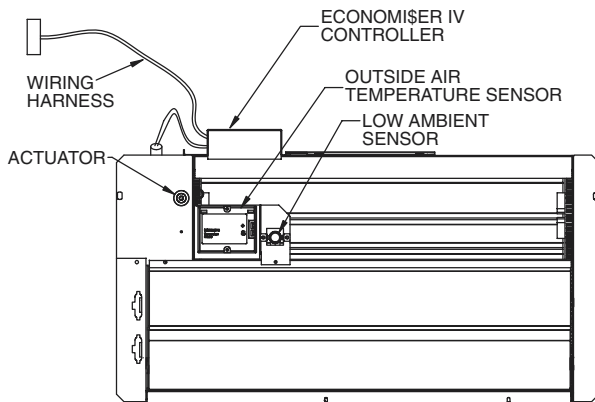
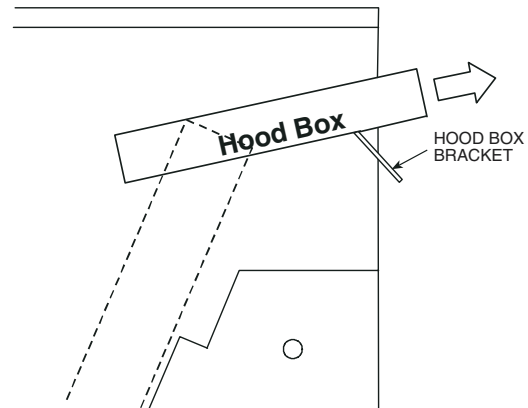
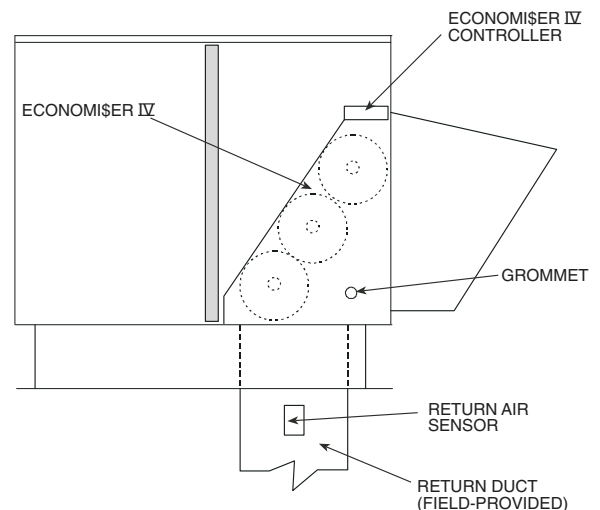
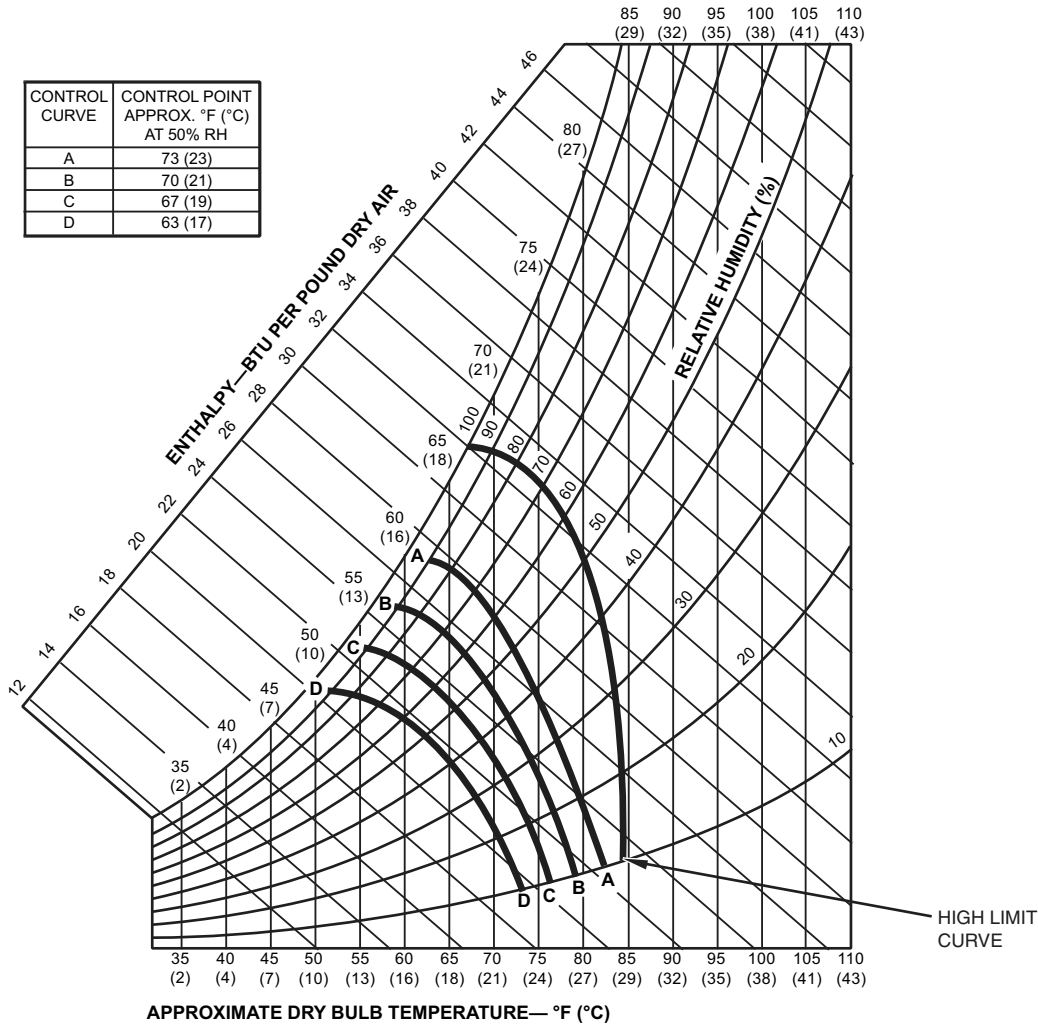

Fig. 19 — EconoMiSer IV Component Locations
Fig. 21 — Hood Box Removal
Fig. 32 — Return Air Temperature or Enthalpy Sensor Mounting Location
Fig. 33 — Enthalpy Changeover Set Points
See Fig. 19 for EconoMiSer IV component locations.
- The box with the economizer hood components is shipped in the compartment behind the economizer. The EconoMiSer IV controller is mounted on top of the EconoMiSer IV in the position shown in Fig. 19. To remove the component box from its shipping position, remove the screw holding the hood box bracket to the top of the economizer. Slide the hood box out of the unit. See Fig. 21.
The outdoor air temperature sensor (HH57AC074) is a 10 to 20 mA device used to measure the outdoor-air temperature. The outdoor-air temperature is used to determine when the EconoMiSer IV can be used for free cooling. The sensor is factory-installed on the EconoMiSer IV in the outdoor airstream. See Fig. 19. The operating range of temperature measurement is 40 to 100 F.
The EconoMiSer IV is equipped with an ambient temperature lockout switch located in the outdoor airstream which is used to lock out the compressors below a 42 F ambient temperature. See Fig. 19.
For differential dry bulb control the standard outdoor dry bulb sensor is used in conjunction with an additional accessory dry bulb sensor (part number CRTEMPSN002A00). The accessory sensor must be mounted in the return airstream. See Fig. 32. Wiring is provided in the EconoMiSer IV wiring harness. See Fig. 25.
For enthalpy control, accessory enthalpy sensor (part number HH57AC078) is required. Replace the standard outdoor dry bulb temperature sensor with the accessory enthalpy sensor in the same mounting location. See Fig. 19. When the outdoor air enthalpy rises above the outdoor enthalpy changeover set point, the outdoor-air damper moves to its minimum position. The outdoor enthalpy changeover set point is set with the outdoor enthalpy set point potentiometer on the EconoMiSer IV controller. The set points are A, B, C, and D. See Fig. 33. The factory-installed 620-ohm jumper must be in place across terminals SR and SR+ on the EconoMiSer IV controller. See Fig. 19 and 34.
Replace the standard outside air dry bulb temperature sensor with the accessory enthalpy sensor in the same mounting location. See Fig. 19. Mount the return air enthalpy sensor in the return air duct. See Fig. 32. Wiring is provided in the EconoMiSer IV wiring harness. See Fig. 25. The outdoor enthalpy changeover set point is set with the outdoor enthalpy set point potentiometer on the EconoMiSer IV controller. When using this mode of changeover control, turn the enthalpy set-point potentiometer fully clockwise to the D setting.